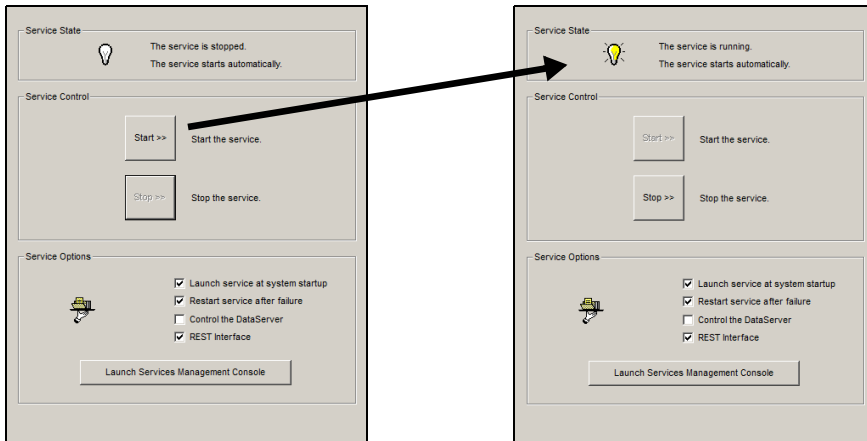

Figure 15-3. Use the **START** button to manually start the operation of the XMS service
2. Press the **START** button in the Service Control section of the page (figure 15-3).